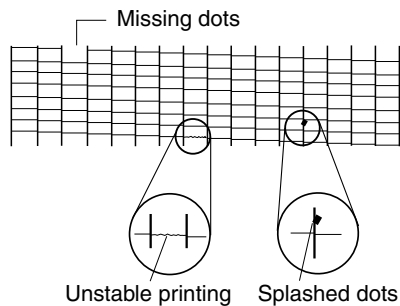

Figure 4-7 Defective Pattern (Sample)
- (1) Check that the orange cap or tape is not on the BJ cartridge.
- (2) Carry out nozzle cleaning on the BJ cartridge five times with the cleaning operation, then visually check the test print for non-discharge of ink from nozzle. (*Fig. 4-7*)
- (3) Remove and reinstall the BJ cartridge.
- (4) Replace the appropriate ink tank.
- (5) Replace the BJ cartridge.
- (6) Replace the purge unit.
- (1) Carry out nozzle cleaning on the BJ cartridge five times with the cleaning operation, then visually check the test print for non-discharge of ink from nozzle. (*Fig. 4-7*)
- (2) Remove and reinstall the BJ cartridge.
- (3) Replace the appropriate ink tank.
- (4) Replace the BJ cartridge.
- (5) Check the connection of the carriage ribbon cable and the PCNT board. (J1/J2/J3)
- (6) Replace the carriage unit.
- (7) Replace the PCNT board.
- (8) Replace the purge unit.